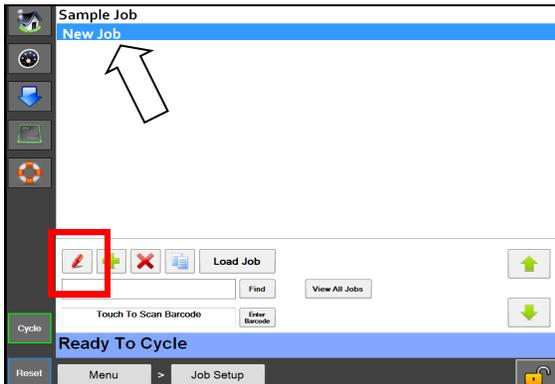

Figure 5-2B. New Job Listed.
3. Highlight the **New Job** in the Job Details Screen. **Figure 5-2B.**
4. Press the Red Pen button. **Figure 5-2B.**
5. Rename job in Job Details Screen, then enter the appropriate information in each box. **Figure 5-2B.**